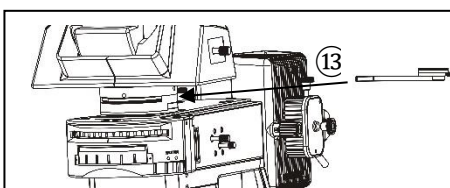

Figure 16
**4-2-13 Installation analyzers (Figure 16)**